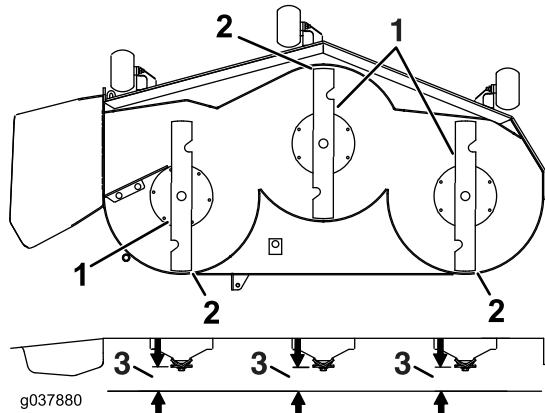

Figure 95
- Check the front-to-rear blade level (Figure 95). Ensure the front blade tip is lower than the rear blade tip as shown in the block height and rake table. If adjustment is needed, continue with this procedure.